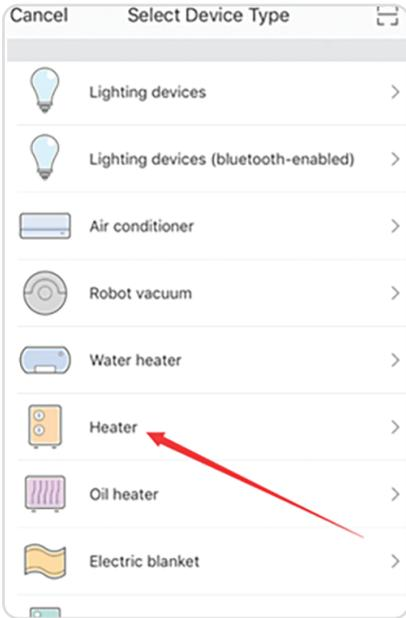

Fig. 2
- A) Select „Heater“ as shown in Fig.2